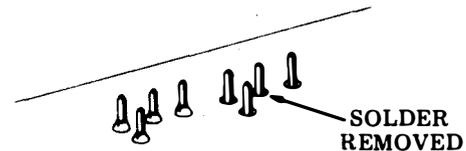

Fig. 17—Solder Removal
- (c) Remove solder from around terminal pins of keyswitch to be removed (Fig. 17).